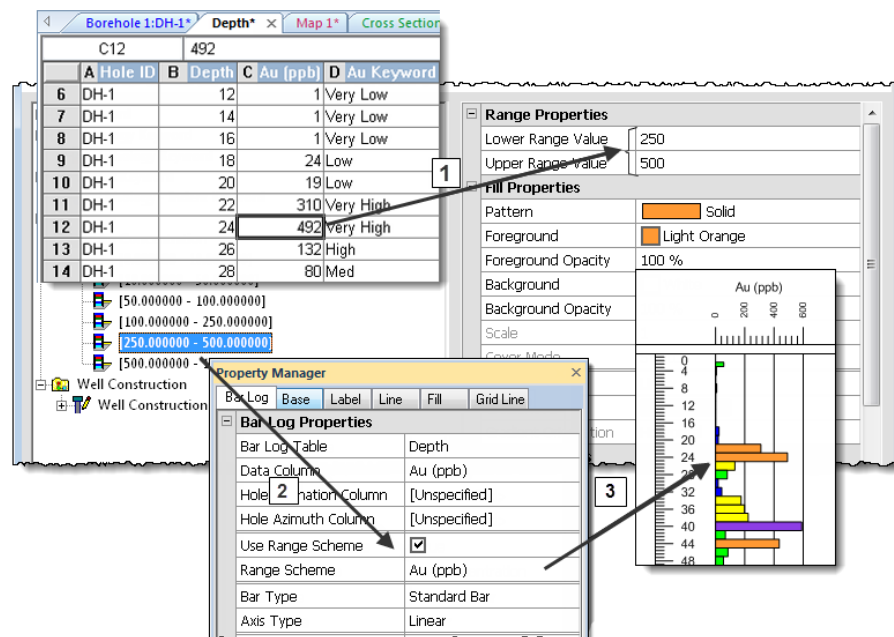

Figure 1.236 – This diagram shows the connection between a value in the table column, the scheme, and the log being displayed.
3. The bar log is displayed. The *Au Concentration* scheme determines the appearance of the log. The color at the depth 24 is light orange, as indicated by the scheme, fig. 1.236.